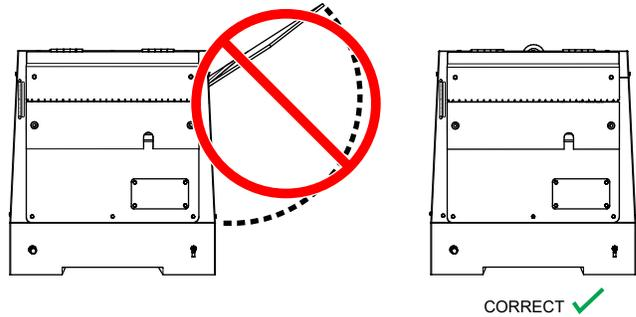

**Figure 27. Fuel Cock Lever (ON)**
2. Open the generator door and place the **fuel cock lever** (Figure 27) in the **ON** position.